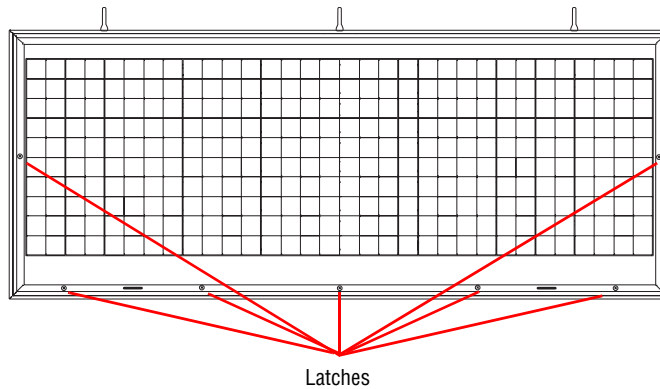

Figure 15: Front latches on sign door
9. Use the quarter-turn latches to close the sign’s door. See Figure 15, “Front latches on sign door,” on page 36.